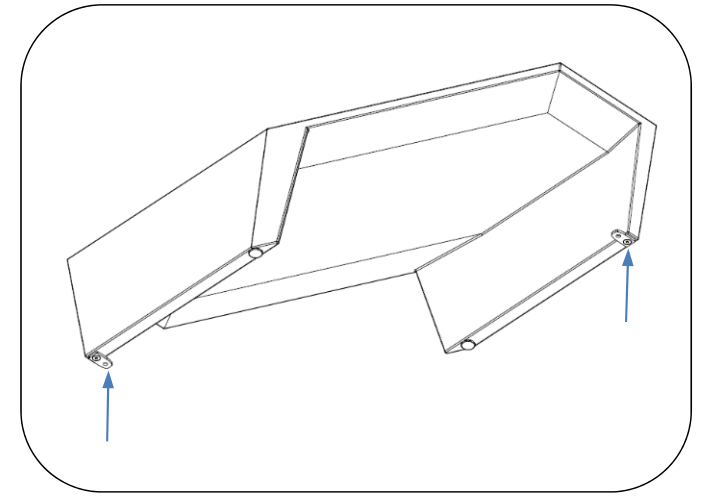

Fig. 3
2. Verify that surface mount tabs are tightened and secure, see Fig. 3.